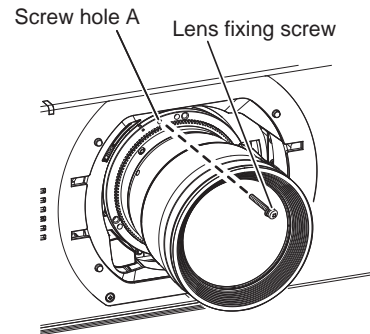

Fig. 2
3) Secure the projection lens with the lens fixing screw supplied. (Fig. 2)